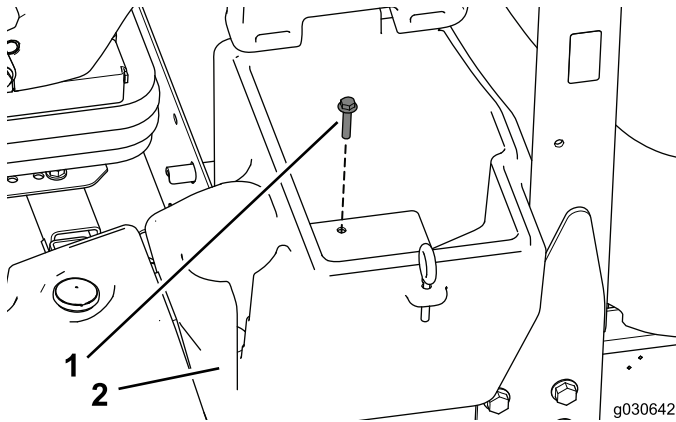

Figure 1
1. Remove the bolt securing the storage compartment located on the left side of the machine (Figure 1) and set it aside.